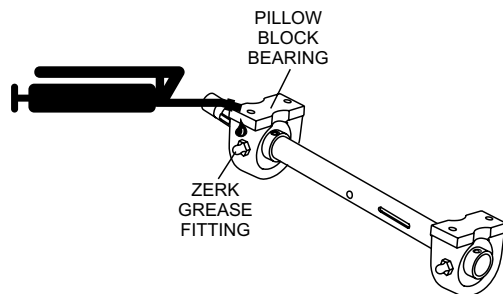

Figure 45. Blade Shaft Bearings
2. **Blade Shaft Bearings (2)** — Grease daily (Figure 45).